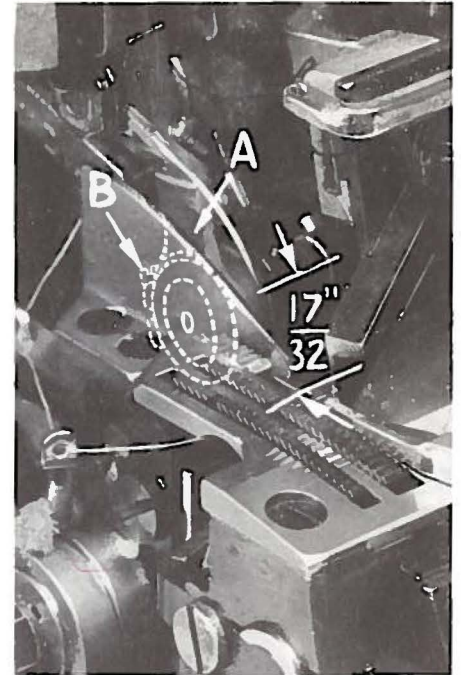

Fig. 3
With throat plate in position, needle should center in the front end of needle slot. When needle is at high position, needle point should be set $\frac{17}{32}$ inch above throat plate (Fig. 3). Move needle driving arm (A, Fig. 3) by loosening clamp screw (B). Remove throat plate.